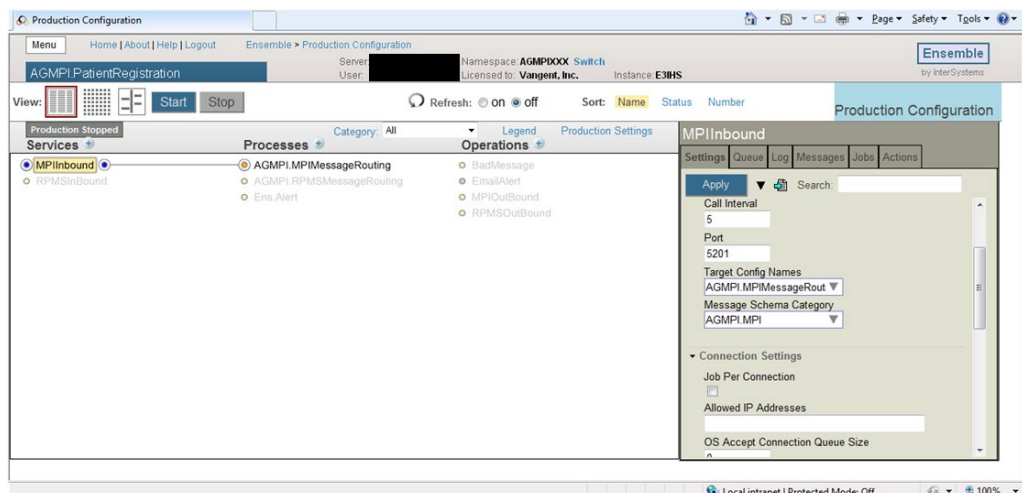

Figure 5-21: **MPIInbound** configuration
1. Click **MPIInbound** on the **Production Configuration** page to display the MPIInbound configuration settings, as shown in Figure 5-21.